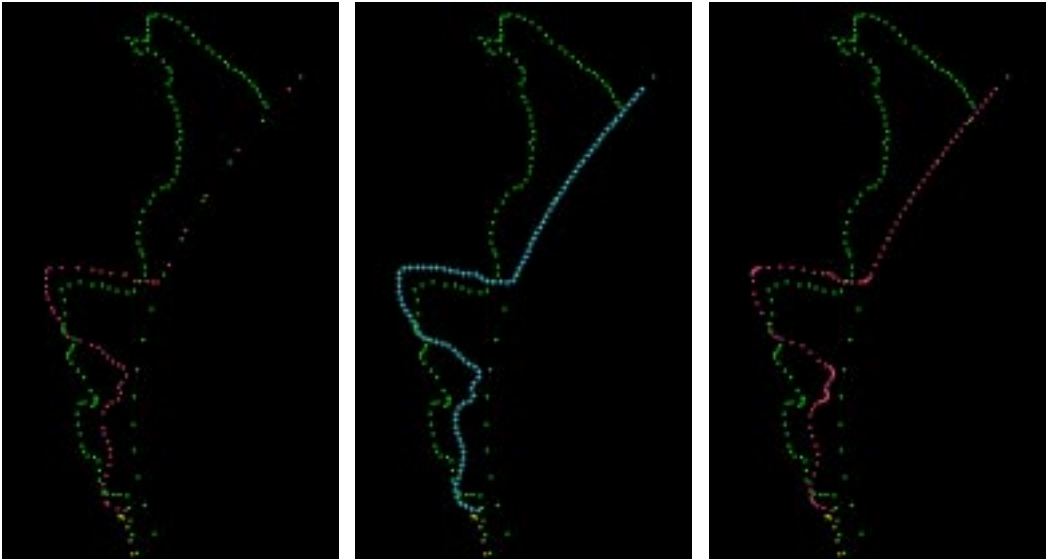

Figure 27. Left to right: original distribution; uniformly discretized to 100 points; discretized by curvature.
- Switch to object 2, and zoom in on the area at the leading edge of the airfoil (Figure 27). Select indices 1 and 56 as the endpoints of the subcurve by using the *Boundary->Choose Subcurve* menu selection.